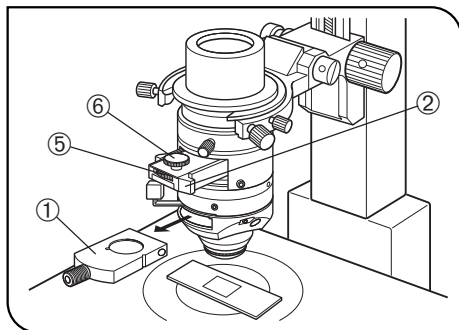

Fig. 5
(Figs. 5 and 7)
8. While observing the objective's exit pupil, rotate the polarizer rotation dial ⑤ on the polarizer unit until the black interference stripe becomes darkest. This is the position for using the polarizer. (Figs. 5 & 7)
9. After determining the position, tighten the polarizer-clamping knob ⑥ so that the polarizer will not rotate.